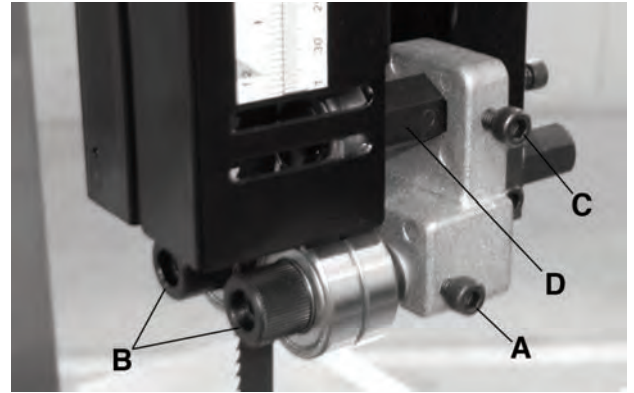
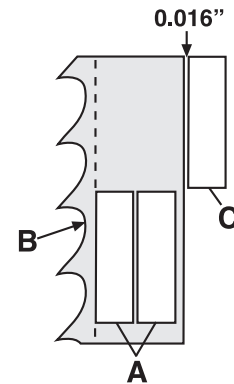

FIGURE 9
FIGURE 13
1. Loosen cap screws (A) Fig.9 on both sides, turn both cap screws (B) to widen the gap between the ball bearings.
2. Loosen cap screw (C) Fig.9, and move the upper back-up ball bearing shaft (D) backwards away from the blade.
1. Adjust the upper ball bearing guides (A) Fig.13 as far forward as possible to the blade gullets (B). Adjust the upper ball bearing guides to within 0.004" on both sides of the blade, loosen cap screws (A) Fig.9 on both sides, turn both cap screws (B) Fig.9 to bring the ball bearings towards the blade until there is a 0.004" gap. Retighten cap screws.
2. Do not set the bearings too close, as friction generates heat, which may have an adverse effect on the bearings and the saw blade as well. Fig.9 shows the upper bearing blade guide assembly properly adjusted.
3. Adjust the upper back-up bearing by loosening cap screw (C) Fig.9, position the upper back-up ball bearing approx. 0.016" at the rear of the blade. Retighten cap screw.